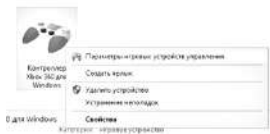
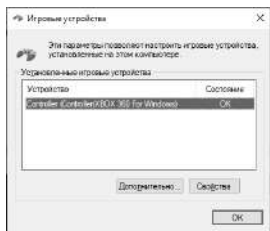

Fig. 2
Fig. 3
• In order to check and calibrate the game pad, you need to open the «Devices and Printers» tab in the Windows control panel, the pad will appear as «Xbox 360 controller for Windows», then right-click on the icon, select the line «Game controllers settings» (Fig. 2) (you may need administrator rights). In this case, the «Game devices» window will appear (Fig. 3).
• Go to the «Control Panel» menu, then click on the «Devices and Printers» icon, in the window that opens, select the «PC Gamepad» shortcut, right-click on «Game Controllers Settings» (see Fig. 2).